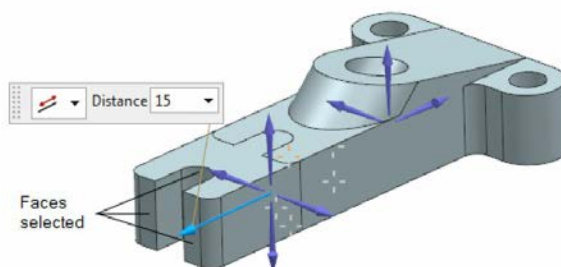

Figure 13-104 Entities selected to modify the length of the base feature
- d. Increase the length of the base feature using the **Move Face** tool, refer to Figure 13-104.
2. Select the three faces of the base plate, refer to Figure 13-104.
4. Enter **15** in the **Distance** edit box of the **Transform** rollout and press ENTER, refer to Figure 13-104. Next, choose the **OK** button from the dialog box to apply the changes and exit the dialog box.